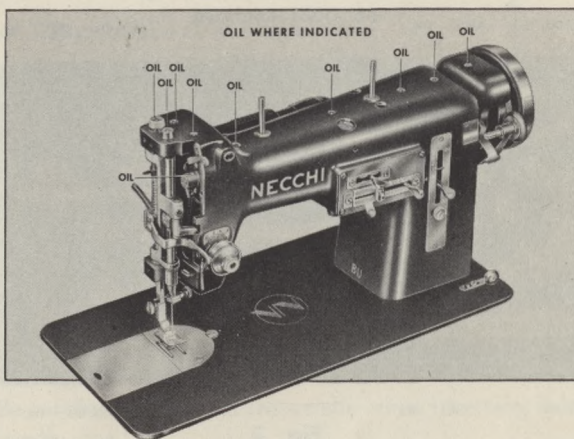

Fig. 2
a. The arrows in Fig. 2 indicate the small oil holes into which one drop of oil should be put whenever the machine is used.